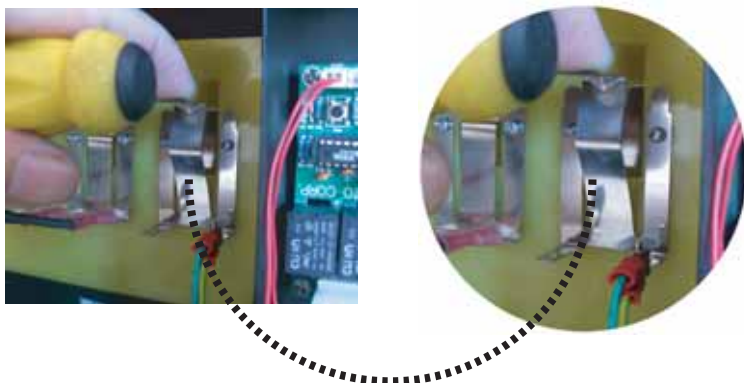

Fig. 5.10-2 Adjust the unit ground terminal so that it can contact the cell closely.
- Visually check if the unit ground terminal contacts the cell ground terminal correctly. If not, you have to adjust the cell. If there is still electrical shock, you may consider to change the cell power contact board with the big power contact terminals. (Fig. 5.10-2~3).